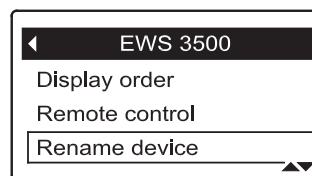

FIG. 71
3. Press the DOWN (▼) button to scroll through the menu options until **Rename device** is highlighted in a box (See Figure 71).
9. To select the next character, return to Step 7. When finished entering the device name, press the UP (▲) button to switch to the upper line, then press SELECT (○) to go back to the device menu (Figure 71).